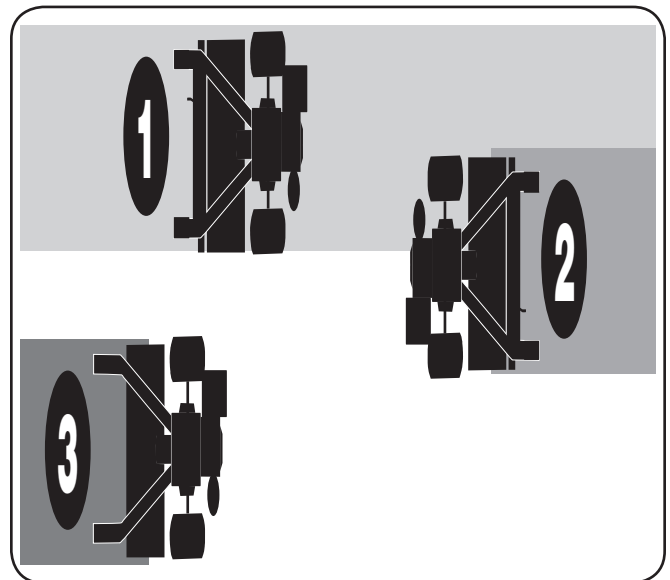

Figure 4-13
- If the garden size will not permit lengthwise and then crosswise tilling, then overlap the first passes by  $\frac{1}{2}$  a tiller width, followed by successive passes at  $\frac{1}{4}$  width. See Fig. 4-13.